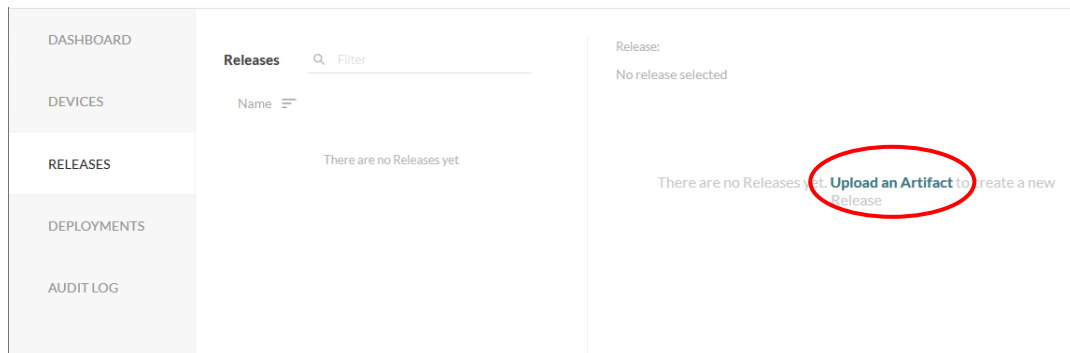

Figure 5 - Upload an artifact
2. On the Mender server go to the RELEASES tab and then click on Upload an Artifact as shown in Figure 5.